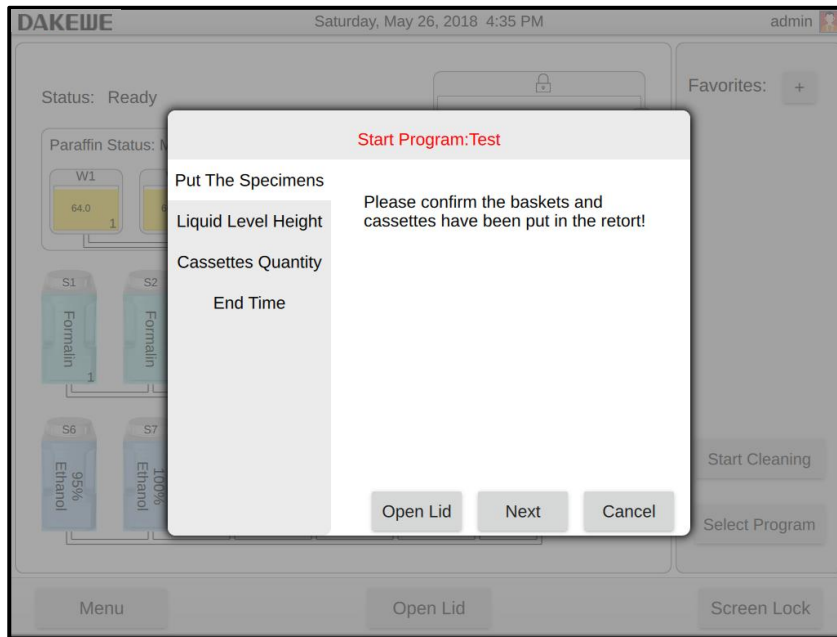

Figure 73
- The confirmation window pops up. After confirmation, click “Next” (Figure 73).